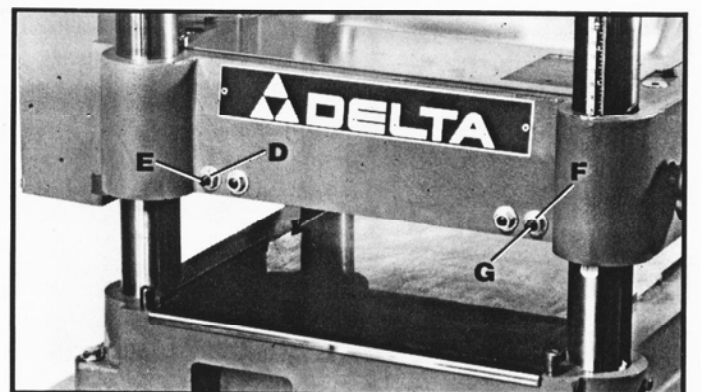

Fig. 33
5. If the height of the infeed roll must be adjusted, loosen nut (D) Fig. 33, and turn adjusting screw (E) until that end of the infeed roll just touches the top of the gage block. Then tighten nut (D).
6. Repeat this adjustment with the gage block on the opposite end of the infeed roll and if an adjustment is necessary loosen nut (F) Fig. 33, and turn adjusting screw (G).